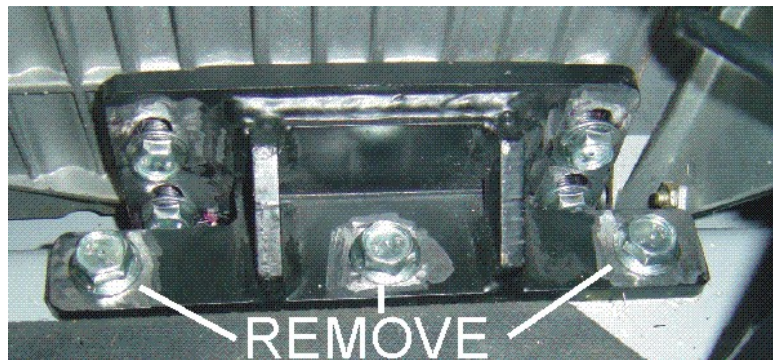

Figure 11. Engine Mounting Bolts (Frame)
12. There are six 12 mm bolts (3 per side) that secure the engine mounting bracket (Figure 11) to the frame. Using a 17 mm socket remove and discard these bolts.